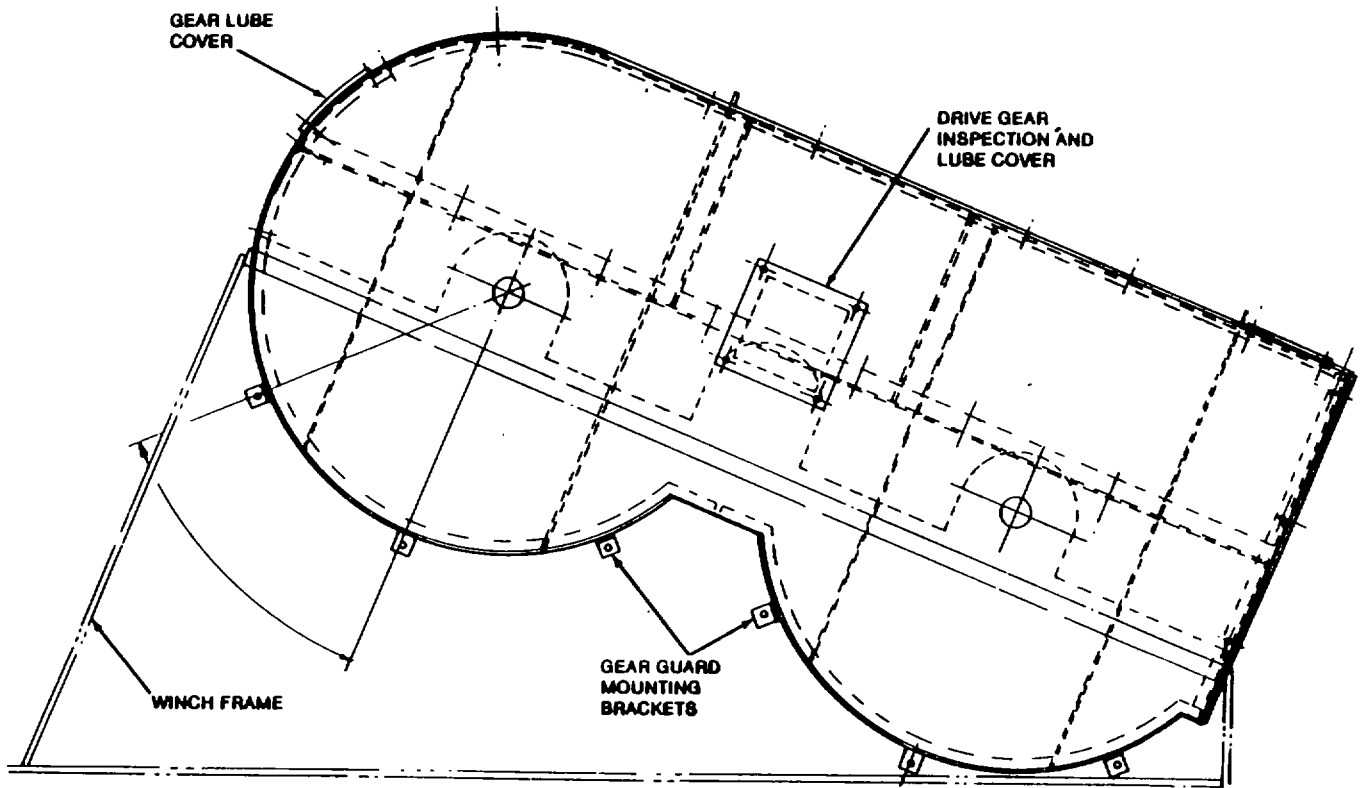

Figure 4-5. Gear Guard Removal and Installation.
a. Removal. Remove winch gear guard as illustrated in figure 4-5.
- (1) Remove gear lubrication covers.
- (2) Wash all remaining parts with cleaning solvent and dry thoroughly.
- (3) Inspect guards for cracks or breaks.
- (4) Inspect mounting hardware for damaged threads.
- (5) Repair guards by straightening and/or welding. Replace defective parts.
- (1) Install winch gear and brake drum covers as illustrated in figure 4-5.
- (2) Open gear lubrication cover and lubricate gears.
- (3) Replace gear lubrication access covers.